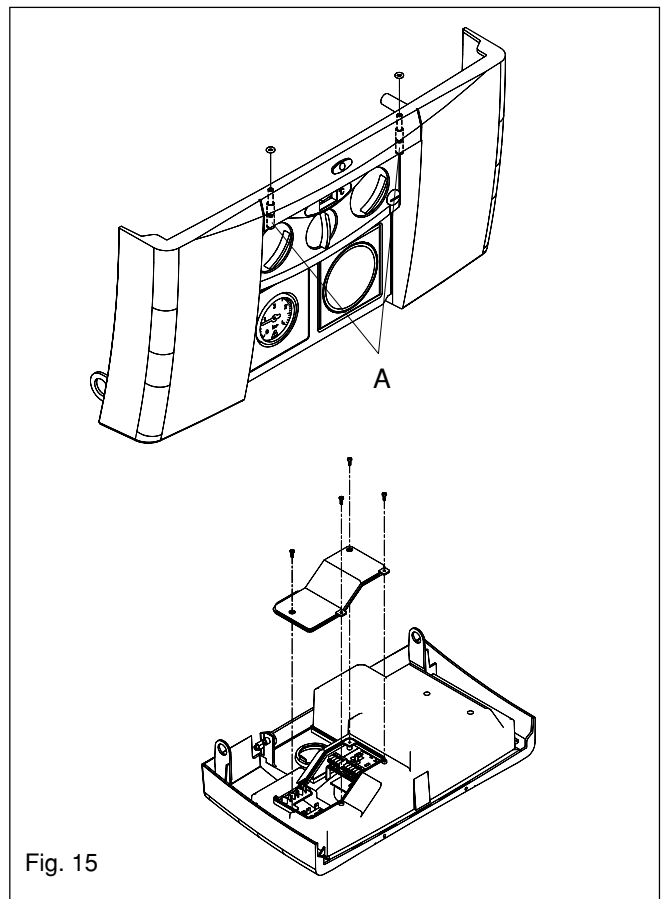

Fig. 15
- locate and unscrew the 2 screws that secure the controls fascia to the appliance casing (see fig 15)
The appliance terminal block is located on the left side of the control fascia (see fig. 15). Locate and remove the screws securing the terminal block cover.